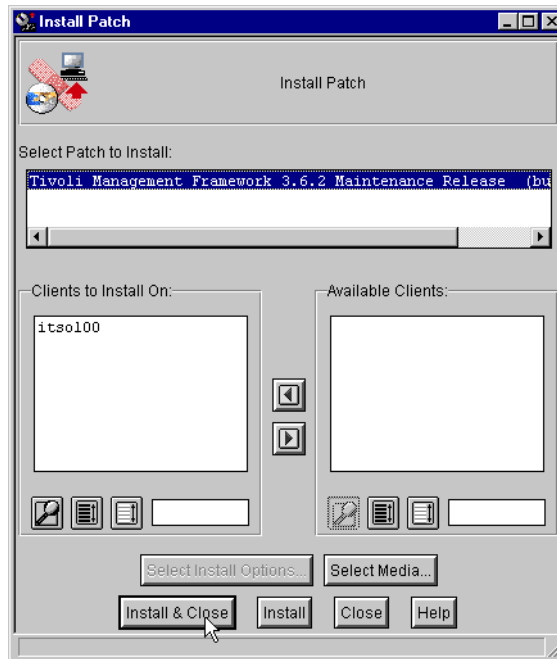

Figure 32. *Install Patch*
26. Select **Tivoli Management Framework 3.6.2 Maintenance Release** and click **Install & Close** as shown in Figure 32 on page 53.